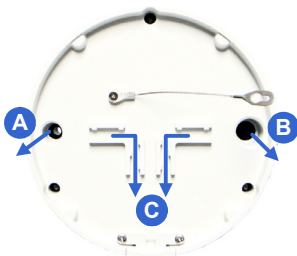

Figure 4-11
- D. Drill A & B holes or only C hole for sorting out the wires according to Figure 4-11.